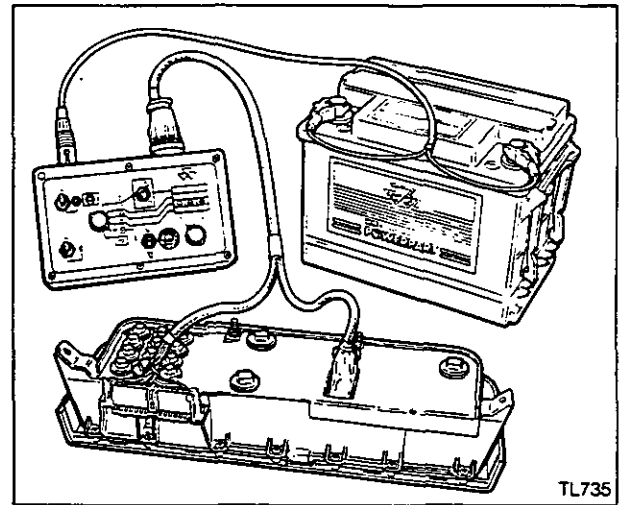

Figure 1
6. Plug the two leads of the MF3004 Test Unit into the instrument panel (Figure 1).